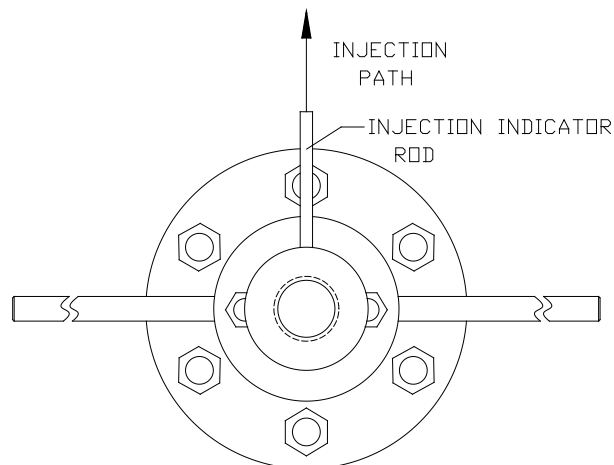

FIGURE 1
2.1.5 Line up the injection indicator with the injection path of the openings in the diffusing probe so the directions of the openings are known when the probe is inserted into the pipeline (see Figure 1). Once the unit is connected to the pipeline isolation valve, there will be an external reference point to the diffusing probe openings.